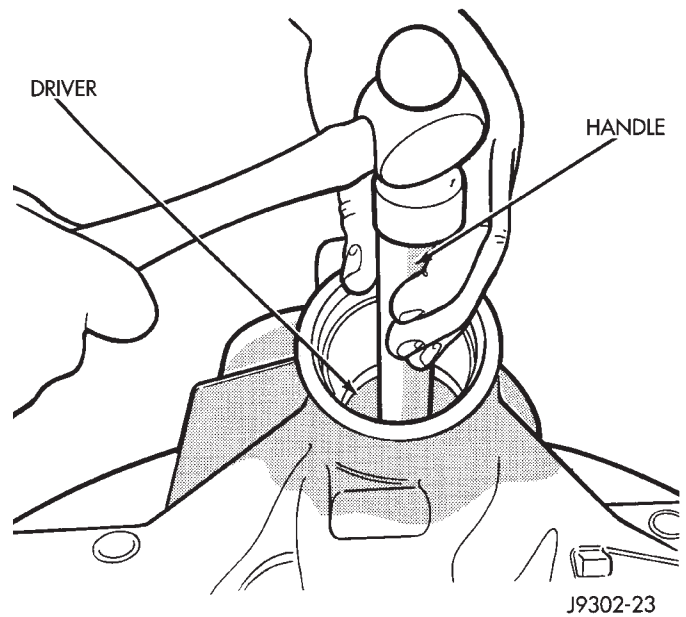

Fig. 31 Rear Bearing Cup Removal
- (8) Remove the rear pinion bearing cup from axle housing (Fig. 31). Use Remover D-148 and Handle C-4171.
- (9) Remove the depth shims from rear pinion bearing cup bore in axle housing. Record the thickness of the depth shims.